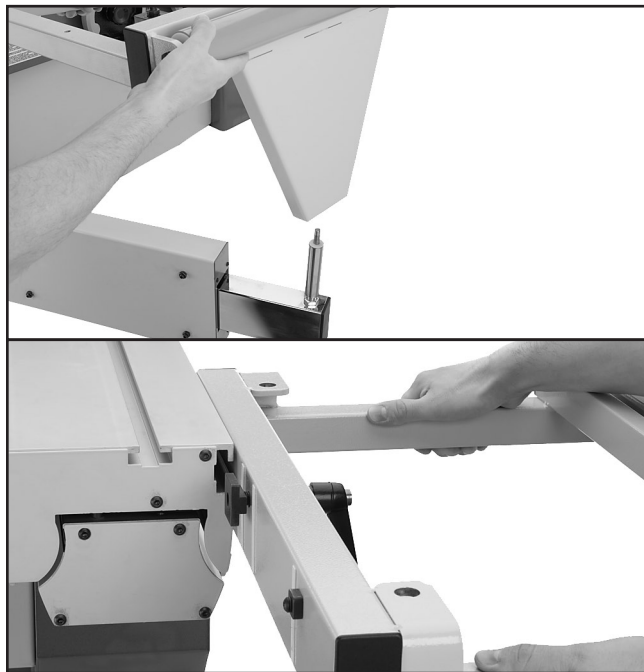

Figure 34. Installing the crosscut table.
2. With the help of an assistant, place the crosscut table on the pivot pin of the swing arm and slide the T-nut into the T-slot in the sliding table (see **Figure 34**).